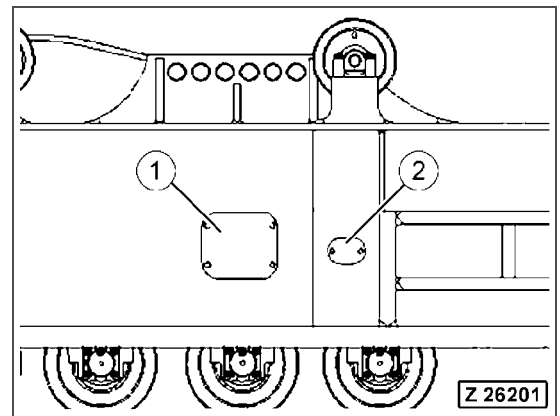

Fig. 4-44
- Remove the covers (Fig. 4-44, Pos. 1 and 2).